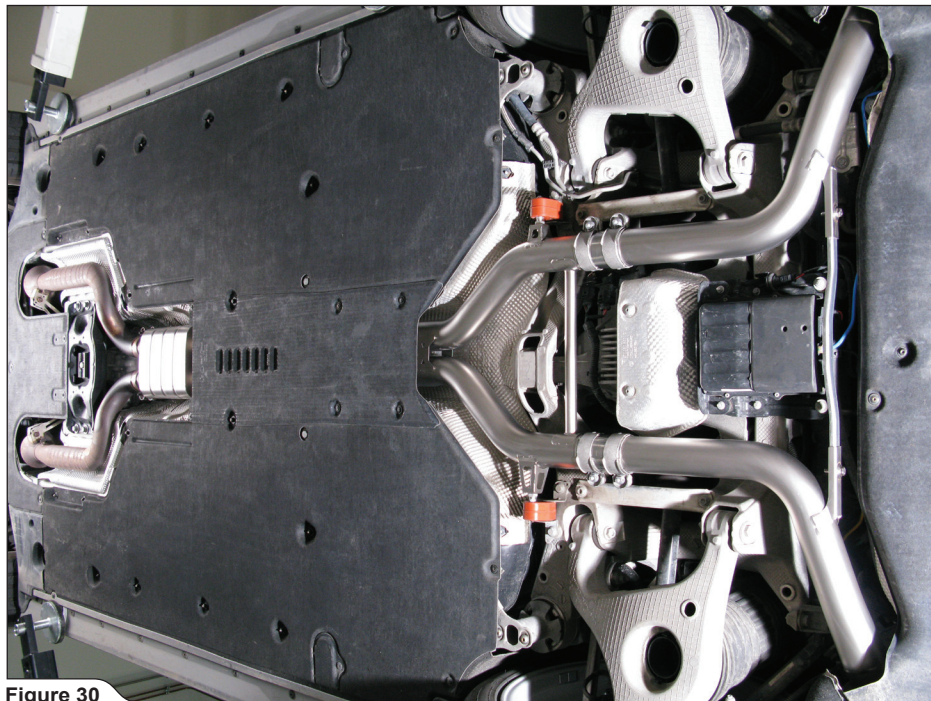

Figure 30
16. **For all vehicle models:** assemble the he chassis panels back onto the vehicle; tightening torque for all panel bolts and nuts: **2Nm/1.5ftlb (Figure 30, 31).**